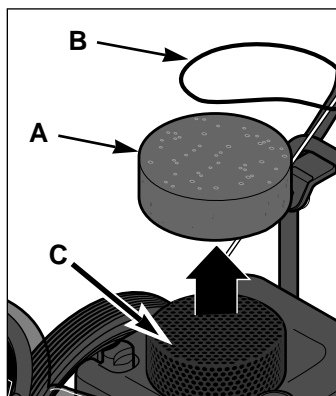

Figure 5-14.
It is extremely important to keep the foam debris filter (A, Figure 5-14) free of dirt and dust so the engine can run as efficiently and as cool as possible.
To wash the debris filter, remove the outer "O-ring" (B, Figure 5-14) and carefully lift it off the wire guard (C) to which it is attached on top of engine. Soak filter in warm water and detergent solution.